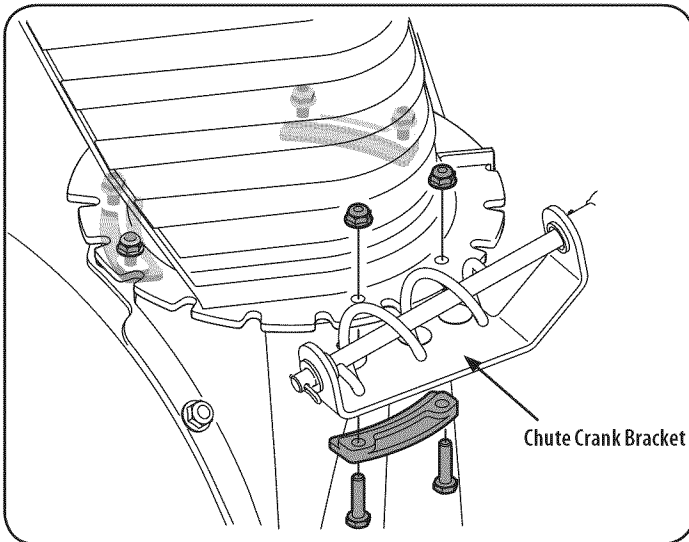

Figure 5
2. Loosen, but do not remove, the chute crank bracket in order to attach the chute assembly. See Figure 5.
4. Secure flange keeper removed earlier with lock nuts and screws. Tighten down nuts securing the other two flange keepers. See Figure 5.